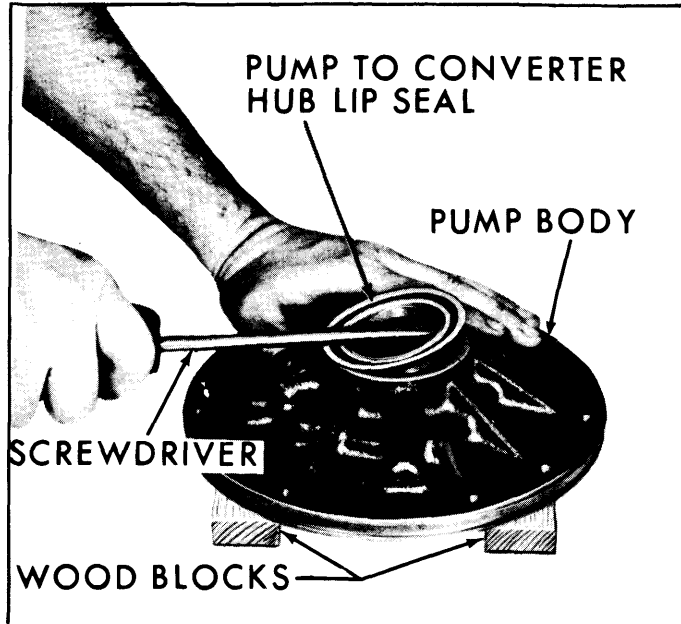

Fig. 7-64—Removing Pump to Converter Hub Lip Seal
1. Replace hub lip seal if defective. (Figs. 7-64 & 7-65)